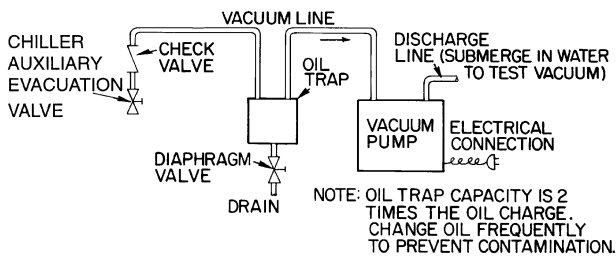

Fig. 13 — Auxiliary Evacuation Device
1. Connect an auxiliary evacuation device (Fig. 13) to the auxiliary evacuation valve. Be sure that the line is as short as possible and that the line size is not smaller than the connection to the auxiliary device. Use a check valve or oil trap on the suction lines to keep vacuum pump oil out of the chiller. Be sure that all connections are vacuum tight.